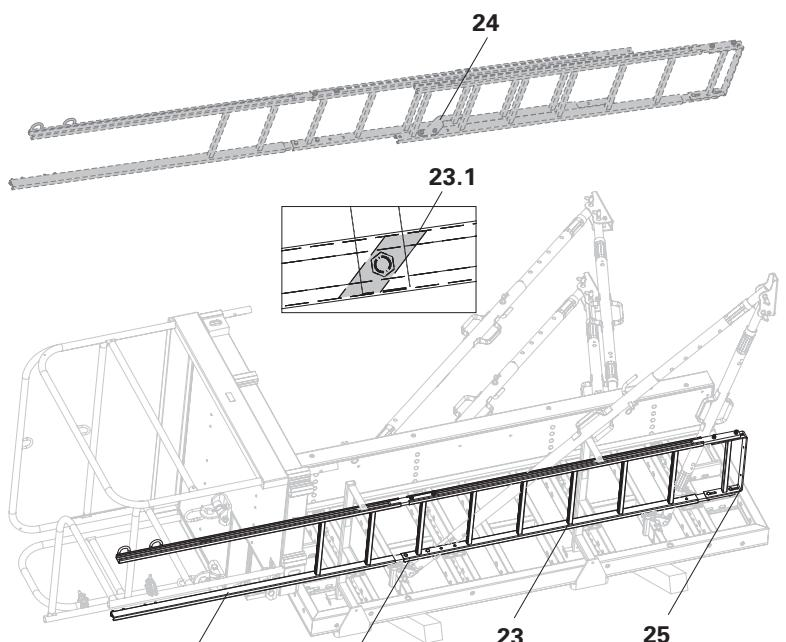

Fig. A3.07
- Connect End Ladder 180/2 (22) with Ladder 180/6 (23), SW 19. Depending on the height, mount additional ladders 180/6.
- Mount Ladder Hooks (24) and Ladder Base (25) to the bottom-most ladder, SW 19. (Fig. A3.07)